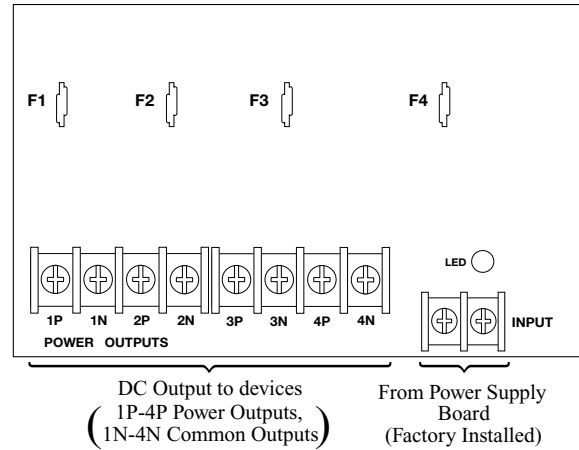

Fig. 3a
- For other Power Distribution Models: connect devices to be powered to the terminal pairs 1 to 4 marked [1P & 1N through 4P & 4N] (Fig. 2a & 2b, pg. 5) or 1 to 8 marked [1P & 1N through 8P & 8N] (Fig. 3a & 3b, pg. 5), carefully observing correct polarity.